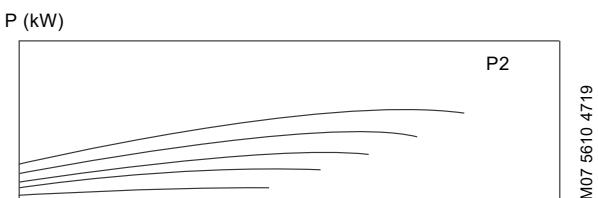

Fig. 116 Q-P curve for variable speed pump for reading P2 at low flow
4. Read out power (P2) and speed (n) as low limit values. See fig. 116.
6. Read out power (P2) and speed (n) as high limit values. See fig. 116.